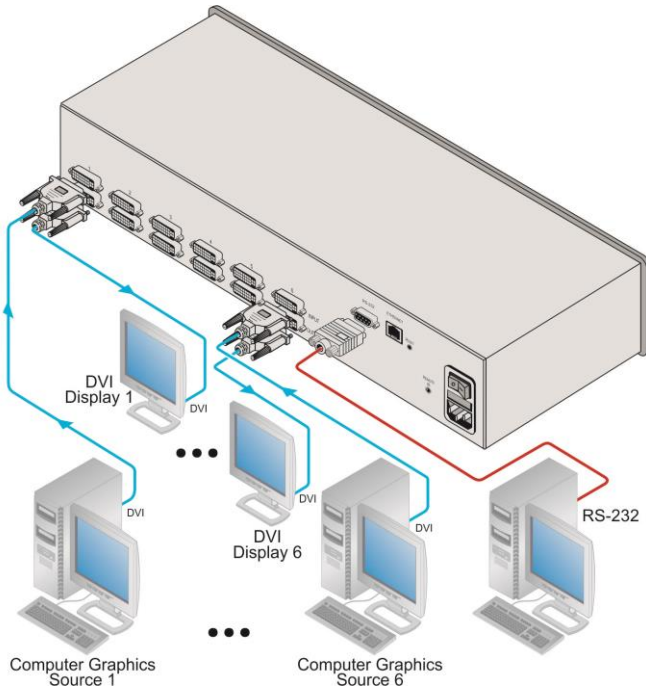

Figure 3: Connecting the VS-66HDCPxI 6x6 DVI Matrix Switcher
To connect the **VS-66HDCPxI** as illustrated in the example in Figure 3:
4. Connect the device to the mains electricity (not shown in Figure 3).